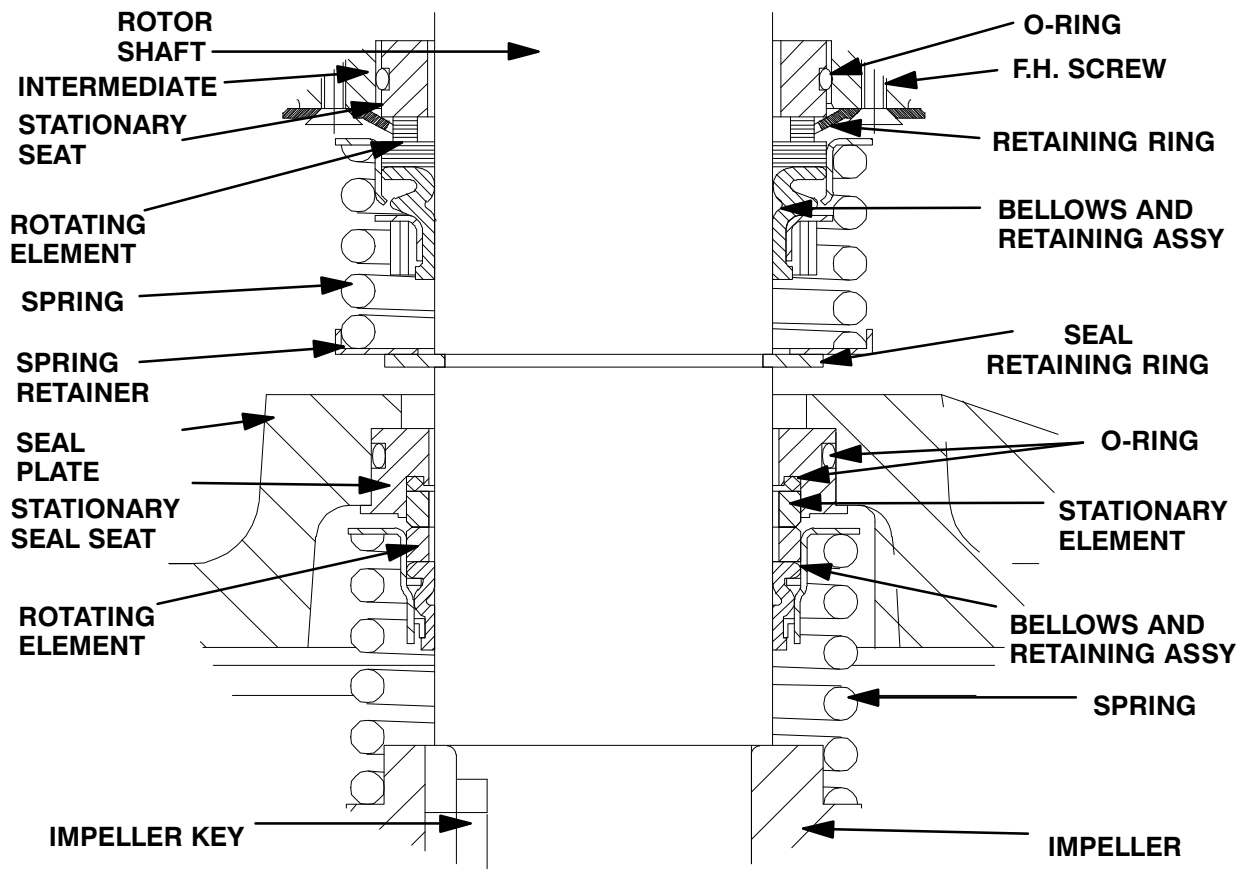

Figure E-6. Upper And Lower Seal Assemblies
Install the shaft seals as illustrated in Figure E-6.
Apply a **light** coating of oil to the seal seating surface on the shaft, the groove for the retaining ring (33), and I.D. of the bellows. Inspect the seal face to ensure that it is clean and dry. If cleaning is necessary, use a clean tissue to wipe in a circular pattern. Slide the seal rotating portion onto the lubricated shaft as shown in Figure E-6. Apply firm, steady pressure on the seal retainer until it slides down the shaft. This step should be done in one continuous motion to prevent the bellows from sticking or rolling as it passes over the retaining ring groove.
Slide the seal spring over the shaft and bellows retainer, and install the spring retainer. Install the seal retaining ring (33). See Figure E-6 for the proper order of seal assembly.
Unpack the stationary seat, and check that the O-rings are properly installed (see Figure E-6). Press the stationary element into the seat, making
Slide the seal spring over the shaft and bellows retainer. See Figure E-6 for proper order of seal assembly.